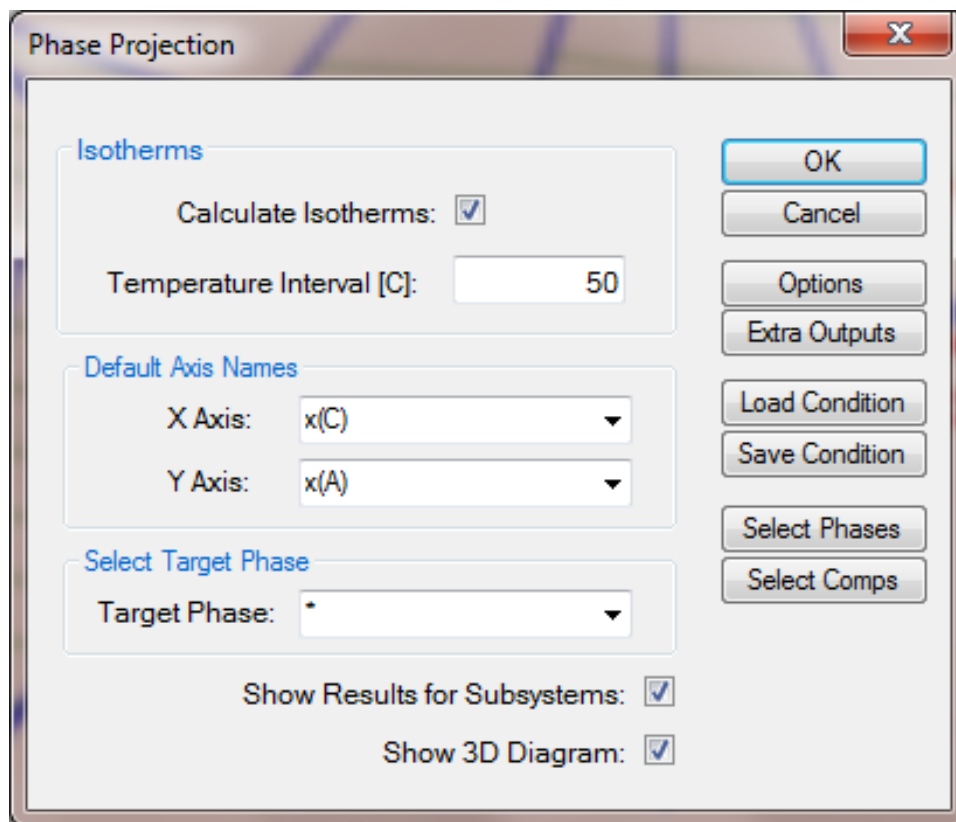

Figure 1.17.1: Setup calculation for a 3D diagram
- Setup calculation condition as shown in Figure 1.17.1. From this setting, * is selected as Target Phase which means all the phases in the system are selected in the calculation;